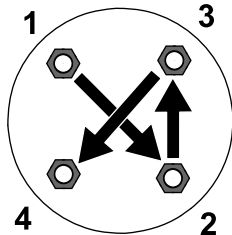

Figure 11
3. Torque the lug nuts (in a crossing pattern as shown in Figure 11) to 108 to 122 N·m (80 to 90 ft-lb).